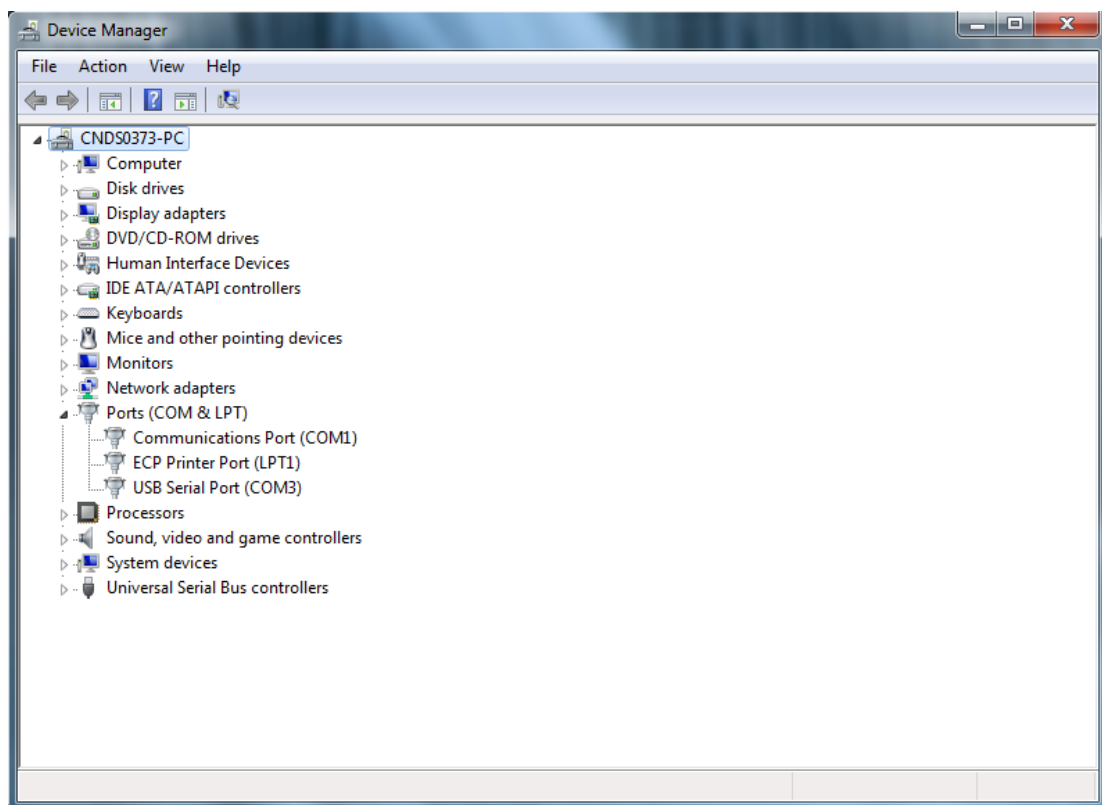
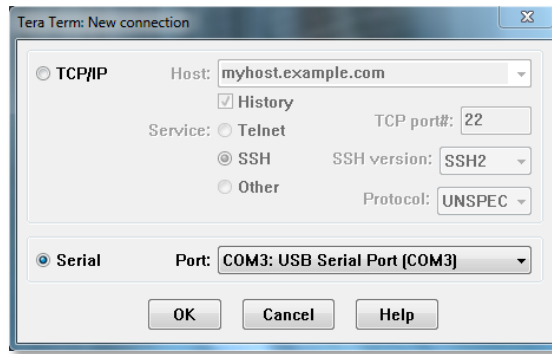
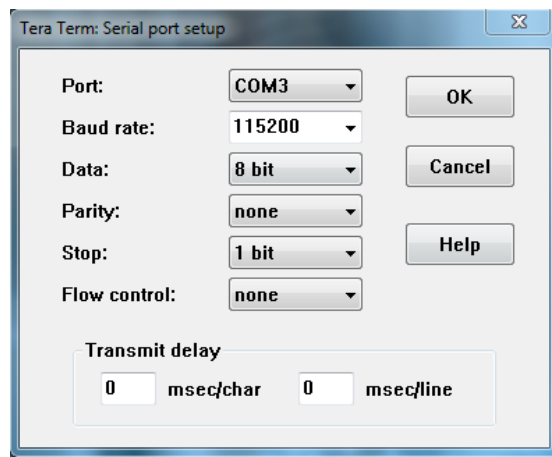

Figure 1: Verify UART (USB serial) port
Figure 2: Choose UART (USB serial) port in Tera Term
Figure 3: UART port setup in Tera Term
3. The recommended terminal is Tera Term. Select the corresponding UART port after opening Tera Term. Do not forget to verify the UART configuration. The UART port may be determined through the computer's device manager by looking for the USB Serial Port as shown in **Figure 1**. The settings for the Tera Term program are as depicted in **Figure 2** and **Figure 3**.